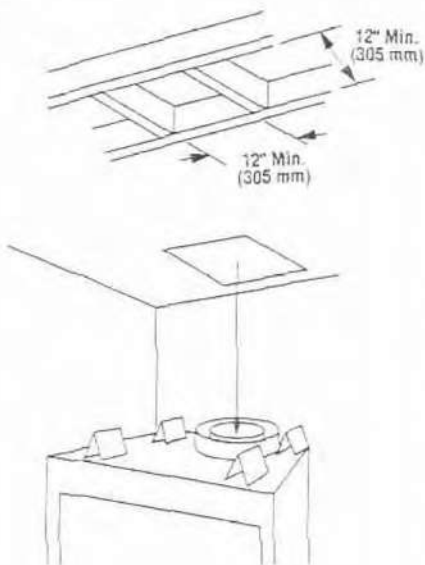

Figure 17
A. Use a plumb line from the ceiling above the appliance to locate center of the vertical run. Cut and/or frame a 12" x 12" inside (305 mm x 305 mm) minimum opening about this center mark (Figure 17).
C. If the vertical route is to penetrate a ceiling, use plumb line to locate the center above the appliance. Cut and/or frame a 12" x 12" (305 mm x 305 mm) inside opening about the center (refer to *Figure 17*).